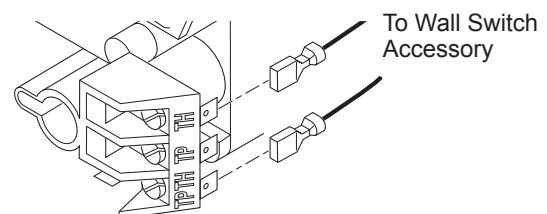

Figure 36 - Connecting Wall Switch to Control Valve
1. Connect one terminal of 25 ft. wire for the wall switch to the TPTH terminal on the valve. Connect remaining wire terminal to the TH terminal on the valve. Make sure that the wire terminals are in the positions on the unit as pictured in Figure 36. If wires are not connected as shown the switch will not work.